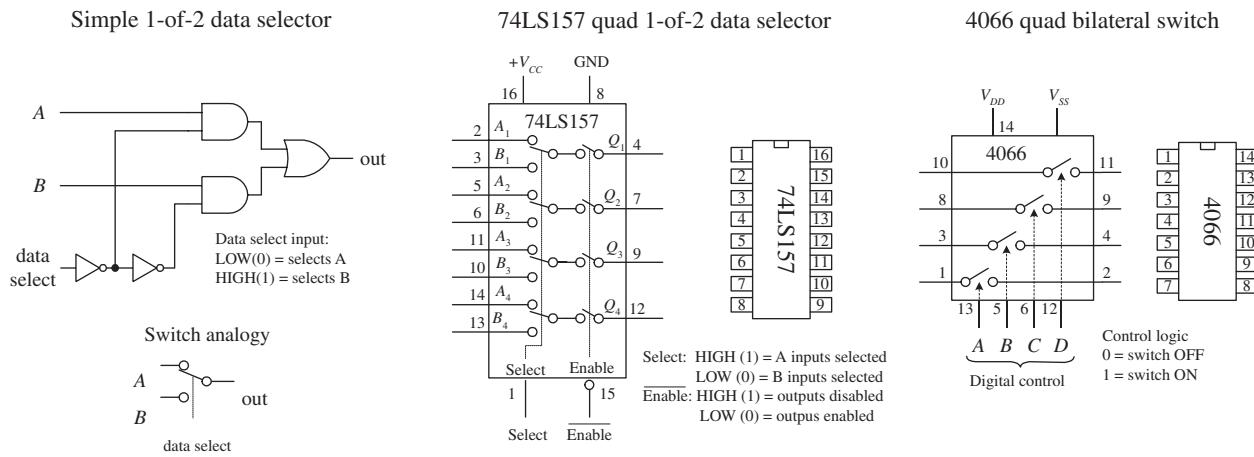
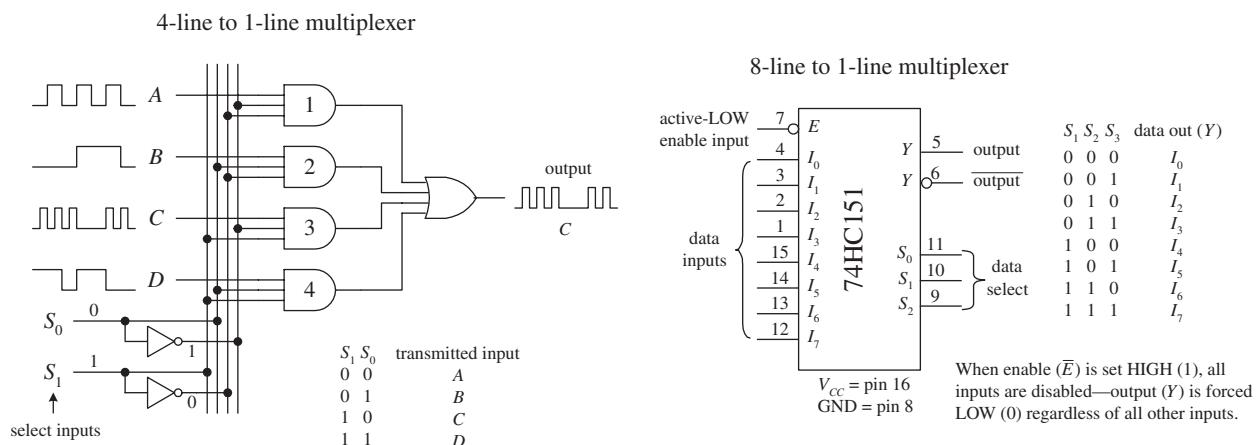

FIGURE 12.32
FIGURE 12.33
A simple 1-of-2 data selector built from logic gates is shown in Fig. 12.32. The data select input of this circuit acts to control which input (*A* or *B*) gets passed to the output: When data select is low, input *A* passes while *B* is blocked. When data select is high, input *B* is passed while *A* is blocked. To understand how this circuit works, think of the AND gates as enable gates.
There are a number of different types of data selectors that come in IC form. For example, the 74LS157 quad 1-of-2 data selector IC, shown in Fig. 12.32, acts like an electrically controlled quad SPDT switch (or if you like, a 4PDT switch). When its select input is set high (1), inputs A_1, A_2, A_3 , and A_4 are allowed to pass to outputs Q_1, Q_2, Q_3 , and Q_4 . When its select input is low (0), inputs B_1, B_2, B_3 , and B_4 are allowed to pass to outputs Q_1, Q_2, Q_3 , and Q_4 . Either of these two conditions, however, ultimately depends on the state of the enable input.
Figure 12.33 shows a 4-line-to-1-line multiplexer built with logic gates. This circuit resembles the 2-of-1 data selector shown in Fig. 12.32 but requires an additional select input to provide four address combinations.
Finally, let's take a look at a very useful device called a *bilateral switch*. An example bilateral switch IC is the 4066, shown to the far right in Fig. 12.32. Unlike the multiplexer, this device merely acts as a digitally controlled quad SPST switch or quad